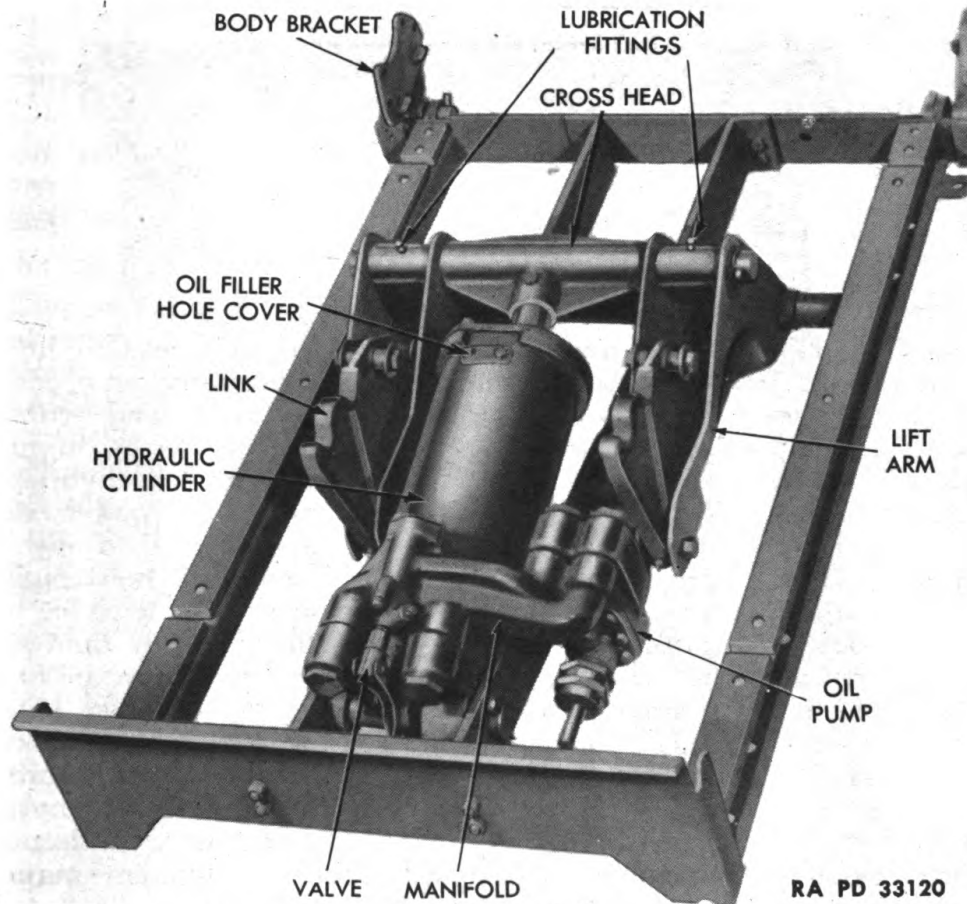

Figure 126—Hercules Hydraulic Hoist
b. **Maintenance (fig. 126).**